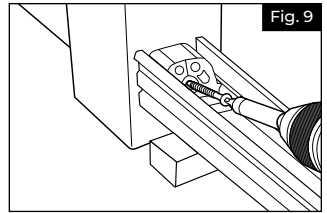

Fig. 9
- b. Secure the lower bracket and beam to the post using 6 #10 x 2.5" mounting screws (G), 3 per bracket (Fig. 9). Begin with the bottom center screw as shown to avoid misalignment.